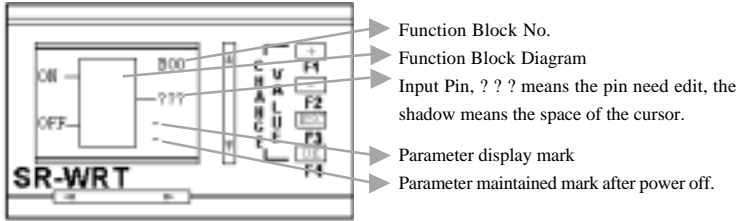
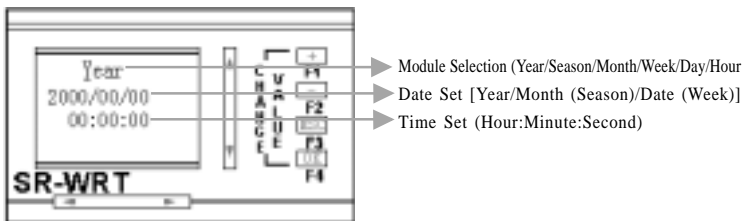
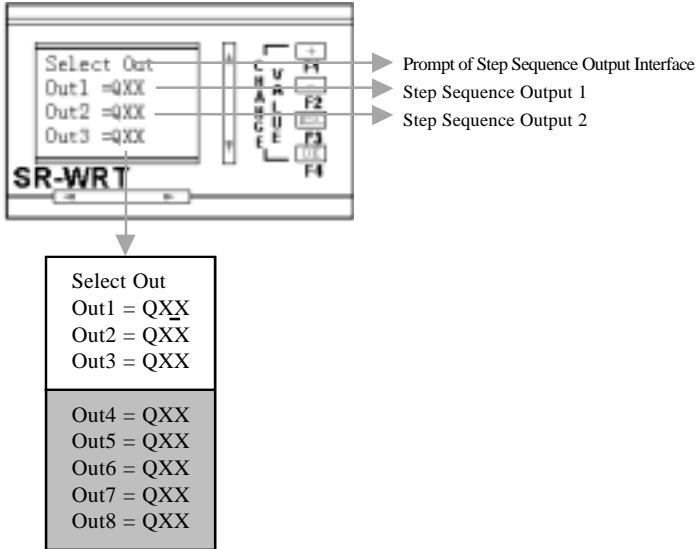

Fig. 10.31 Function Block Edition Interface
Fig. 10.32 Clock Time Edit Interface
Fig. 10.34 Step Sequence Output Edit Interface
1. Select the function. In Fig. 10.7, move “>” before 17 SCHD and press OK to enter Fig. 10.8. Move “>” before YES and press OK key to enter Fig. 10.31, Function Block Edition Interface.
In Fig. 10.31, B00 is the sequence No. of the function block, which is produced automatically in programming and is not able to be edit. The ON of the left side means the space to modify the ON date and the OFF of the left side means the space to modify the OFF date.
3. Select and Edit Point ON: The cursor “■” will also appear in M00. It is need to edit the ON time. Press OK key and cursor will change from “■” to “_”. Press LEFT, RIGHT key, the cursor will be moved under OFF. Press UP, DOWN key, the cursor will be moved under ON. Now the cursor is “_”. Press OK key, Fig 10.32, Clock Time Edit Interface will be displayed.
In Fig. 10.32, “_” is the cursor. The space of the cursor can be changed via UP, DOWN, LEFT, RIGHT and the data or module of the cursor can be changed via +, -. In Fig. 10.32, change the YEAR into DAY and change time to 6:30, thus the time of ON is set. Press OK key to return to Fig. 10.31. But at this time the cursor will be “■” and be on the “O” of ON. The input of this point can be selected via +, -. If “-” is selected, which means this point is not used. If this point is needed, select “On” and press “OK” key, change cursor to “_”. Then select and edit other points.
6. Return to Fig. 10.7, Function Block Selection interface. The edit of function block B00 is finished via the above steps. Press ESC, all the points are edit correctly and return to Fig. 10.7. Otherwise the wrong points will be displayed in Fig. 10.31 as “? ??”. And the cursor will be in the first “?” as the form of “■” and wait for the edition. And the mistakes at this space include the following three points:
Select and Edit B01: Via the above procedure, select function block 17SCHD. Through the confirmation in Fig. 10.8, it will enter Fig. 10.31, function block edition interface. But the B00 is changed into B01, which means the function block edited is
Select and Edit B04: Using step 1 to select function block 22 SSEQ. Through the step 2, edit the first input port of B04 as M02. After confirmation, through step 3, move cursor to the second input port and edit it as LO. Through step 3, move cursor to the first output port “OUT” at the right side. At this time the cursor will be “_”. Press OK key to enter Fig. 10.34, Step Sequence Output Edit Interface.
In Fig. 10.34, Step Sequence Output Edit Interface, “_” is the cursor. The step sequence can be edit via UP, DOWN, and the space of the step sequence can be edit via LEFT, RIGHT. Notes: Q cannot be selected. Only XX can be selected and edited. Change the data of the cursor via +, -. Change QXX to the output we needed. In edition procedure, please be attention the following notes. 1. When editing the step sequence, the output of the above step sequence cannot be as QXX. It must be on detailed output. If we want to edit Out 4 =QA3, then the output port of Out1, Out2, Out3 cannot be QXX. They must be the detailed output, for example, Out1=QA0, Out2=QA1, Out3=QA2 and so on. 2. To be convenient to the user, we design the menu as circle menu. For example, in Fig. 10.31, if the cursor in the second line of the WRT (caused by the first action prompt). The symbol of the above step sequence is Out1. Now Out8 is needed to be edited. Pressing DOWN eight times is too trouble. Directly press UP key one time. The cursor will be on Out8 directly and user can edit.
Out7 =QA6, Out8 =QA7. Press OK or ESC key. If the output ports of the eight step sequence are not as the same as the outputs of the above function blocks. It will enter the function edition interface. Otherwise, the same output ports will be displayed in Fig. 10.34 as Q?? and the cursor will be on the first ? for the user to finish the edit. In function block edition interface, through step 6 to return to Fig. 10.7, thus the edition of B04 is finished.